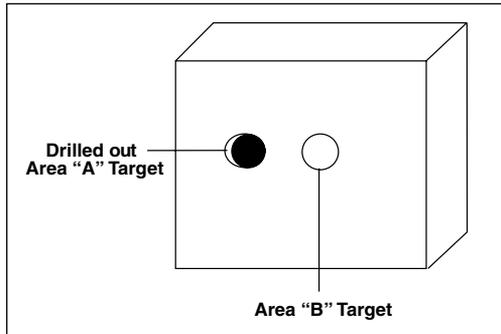

Figure C-2.
3. Set the emissivity to 0.97 and measure and record the temperature of the hole in the sample material - Area "A" in Figure C-2. Make sure that the hole fills the FOV of the thermometer.
4. Aim the thermometer at another spot on the target as close as possible to Area "A" (Area "B" in Figure C-2).